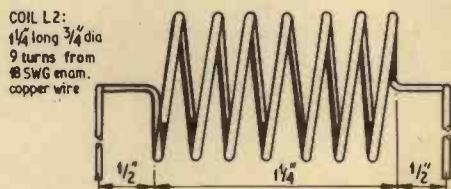

Fig. 15. The transmitter output coil L2
The output coil L2 is self-supporting and details are given in Fig. 15.
- L2 9 turns 18 s.w.g. enamelled wire, spaced by one wire diameter and self supporting, see Fig. 15.